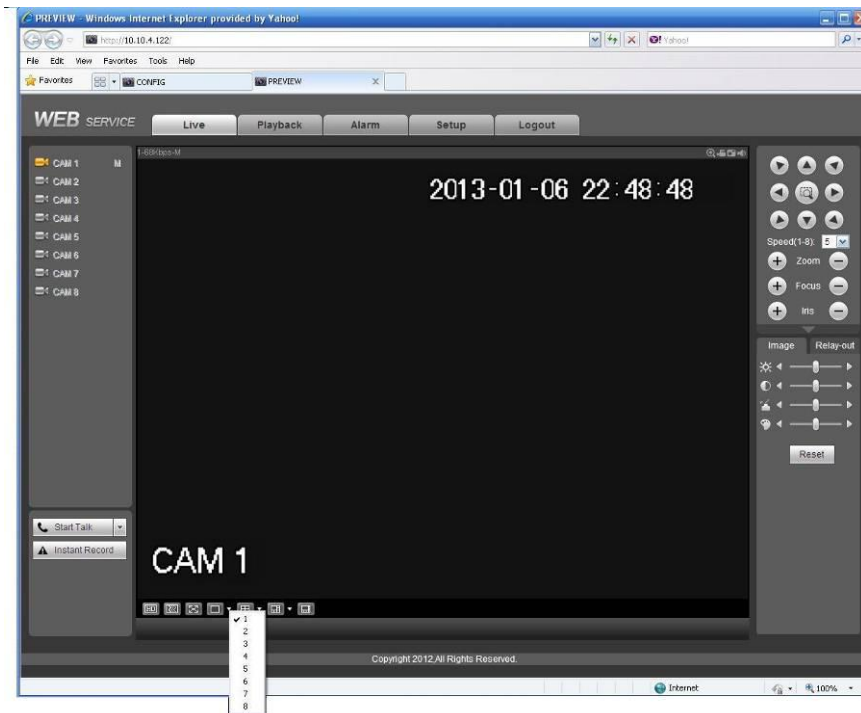

Figure 7-17
- 2) You can select different channel and different monitor mode at the bottom of the interface. See Figure 7-17.